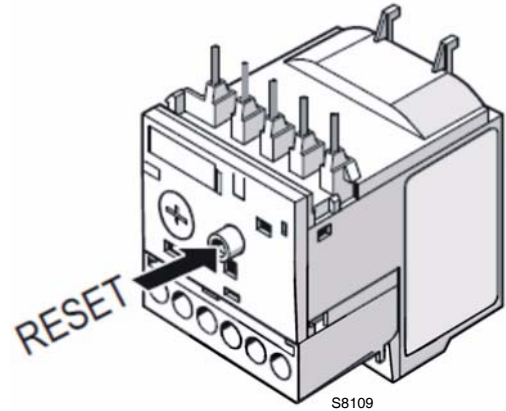

Fig. 37
- To reset, in the case of an intervention of the thermal relay, press the button **"RESET"** (Fig. 37).